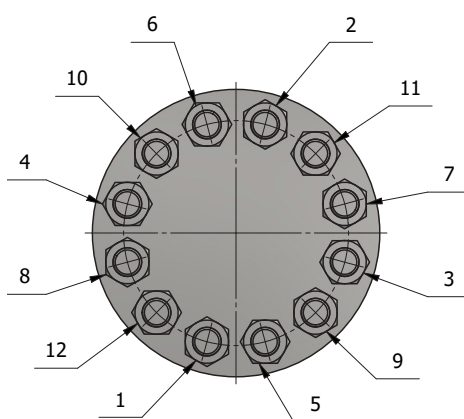

Figure C.31 - Recommended re-tighten order
- For high temperature and high-pressure applications after 24 hours of operation, all nuts shall be re-tightened diametrically opposite to design stress Figure C.31. This action compensates any relaxation or creep. Periodic inspection is recommended, thereafter.